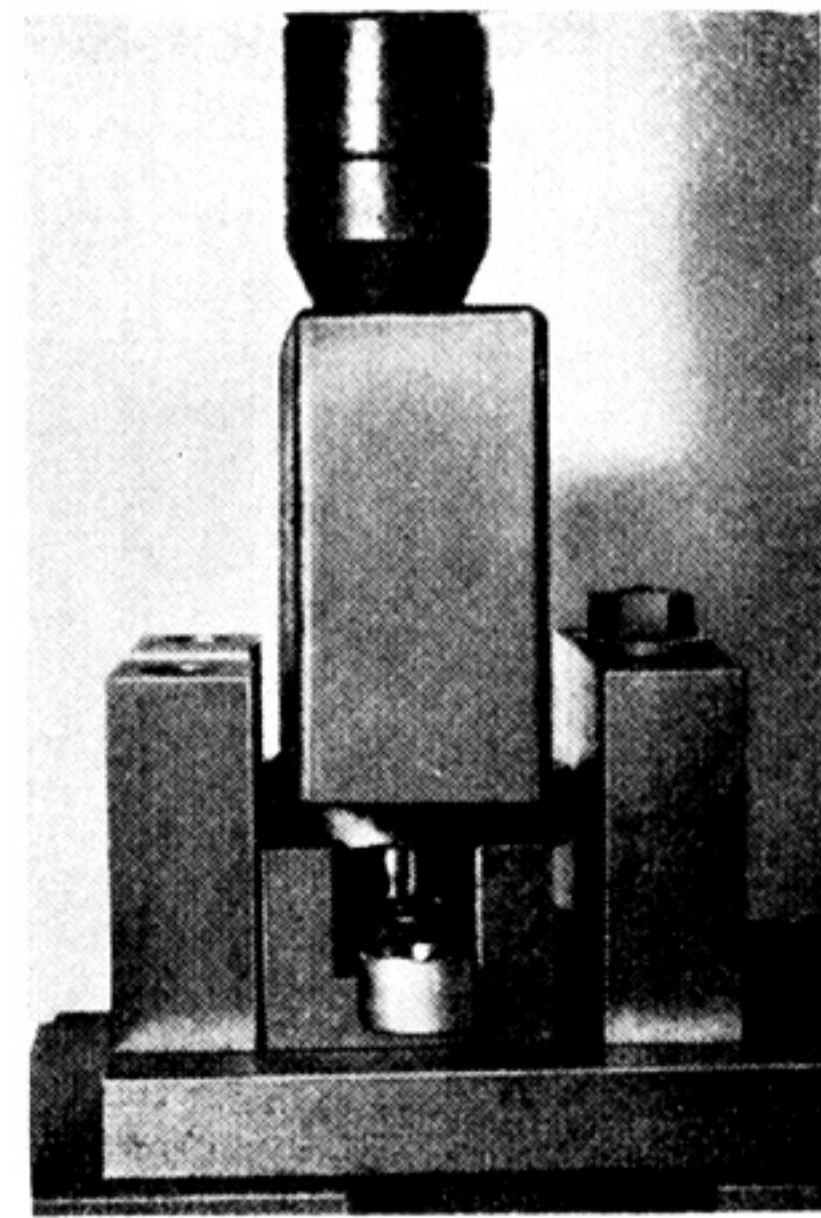

Fig. 3-16-16
- e. Place Tool No.2 on the face of the crank web, and press the crank downward with a hand press until Tool No.2 comes to contact with the top of Tool No.6. Then continue pressing until the pressure load reaches 5 - tons. (Fig. 3-16-16)